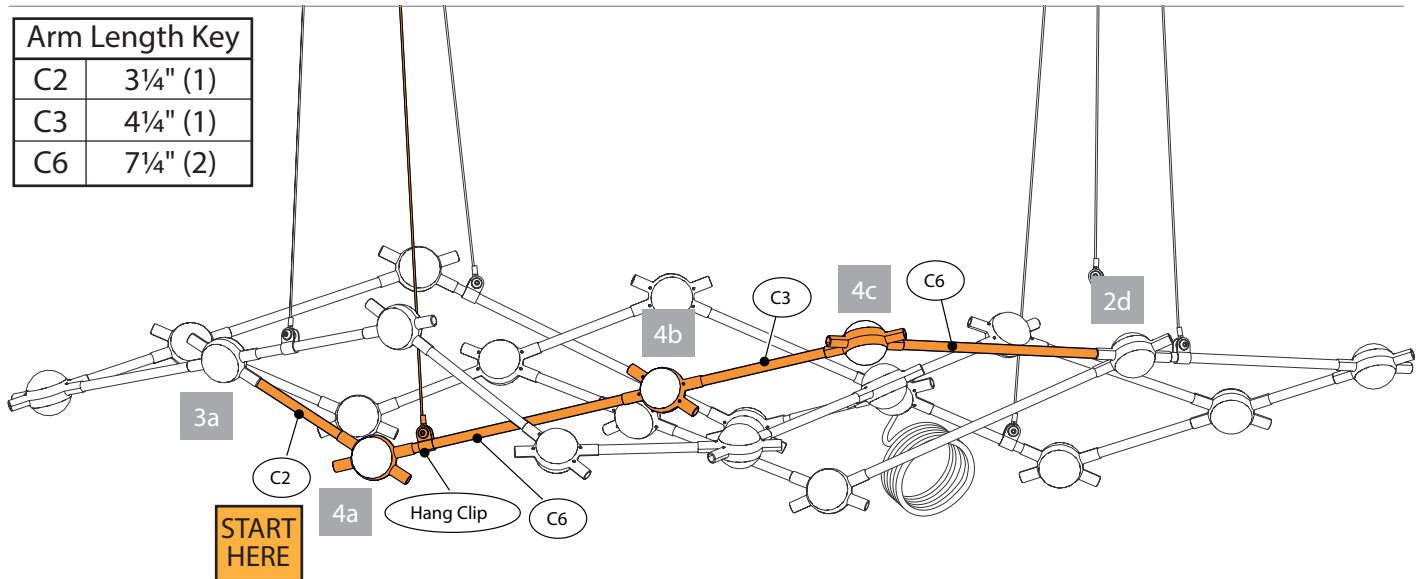

Fig. 8a - Front View
- Continue by connecting 45° Hubs and Arms following the order and pattern in Figs. 8a/8b and complete this section by connecting the remaining C6 Arm to the 45° Hub (2d) from Section 2.